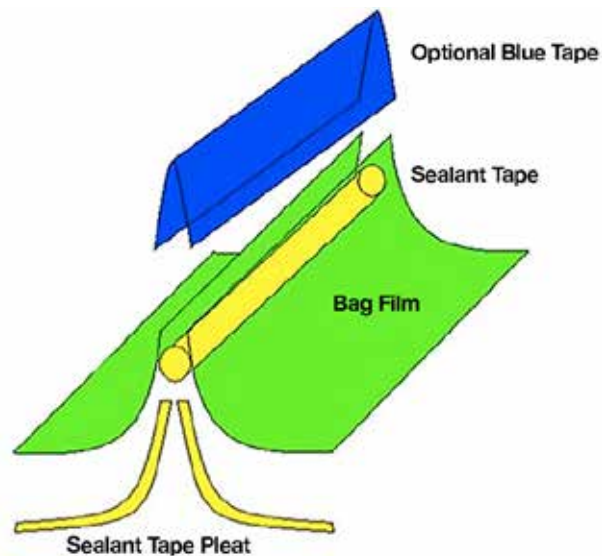
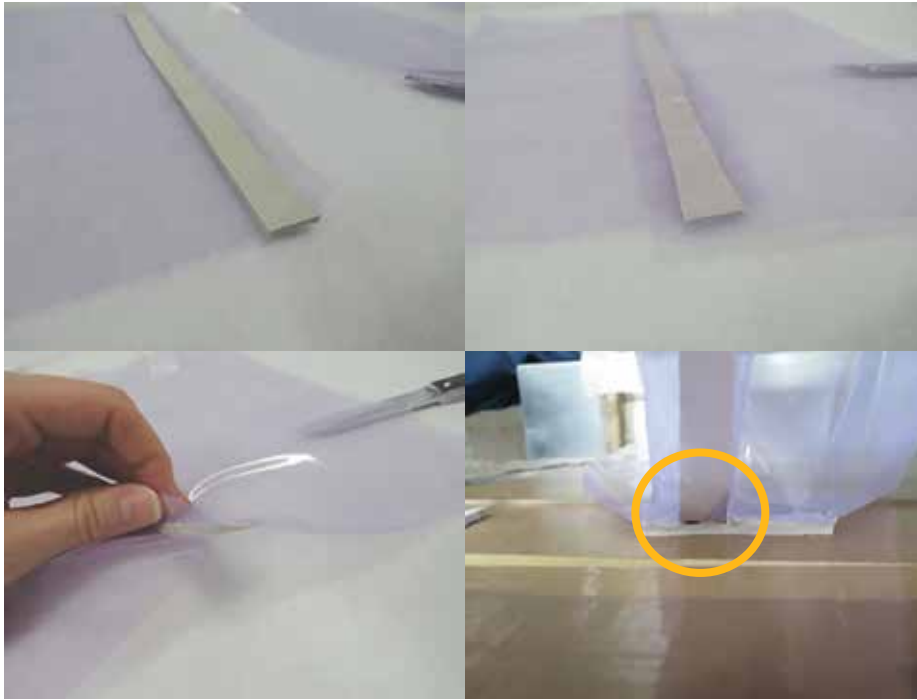

Figure 23: Illustration for bag film seaming method.
Figure 24: Example of preferred bag film seaming method.
- When seaming two smaller pieces of FEP or bag film together to make a larger piece, the vacuum tape should be positioned between the faces like pages between book covers; see Figure 23 and Figure 24 below. This allows for complete sealing of seam to perimeter vacuum tape.